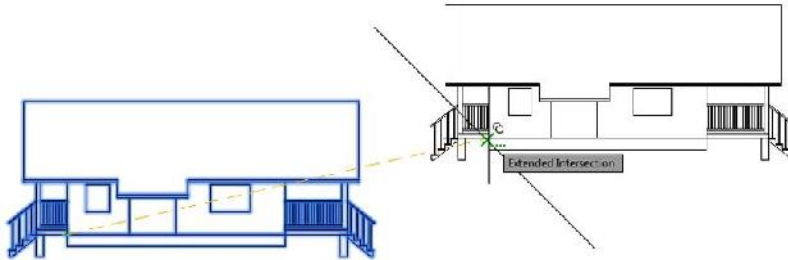

FIGURE 10.49: Using the diagonal line to find the extended intersection
16. When the X symbol with three dots appears at the cursor, click (see Figure 10.49).